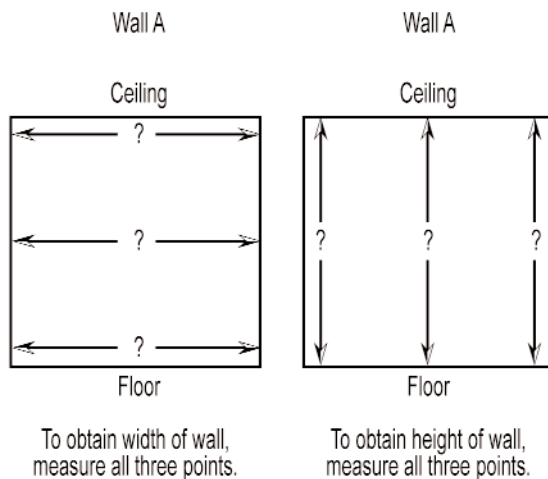

Figure 7
b. Ceiling height should be measured in all corners and center of all walls and provide the minimum and maximum measurements. If your measurements vary more than 1" you should consider using a platform base to level up your racks properly and have your crown molding fit tight to ceiling for a better look. (See figure 7 below)
c. Any walls that bump out, or in to form a pocket should be measured from corner bead to corner bead (outside the pocket) and wall to wall (inside pocket) using the smallest measurement. (See figure 7)